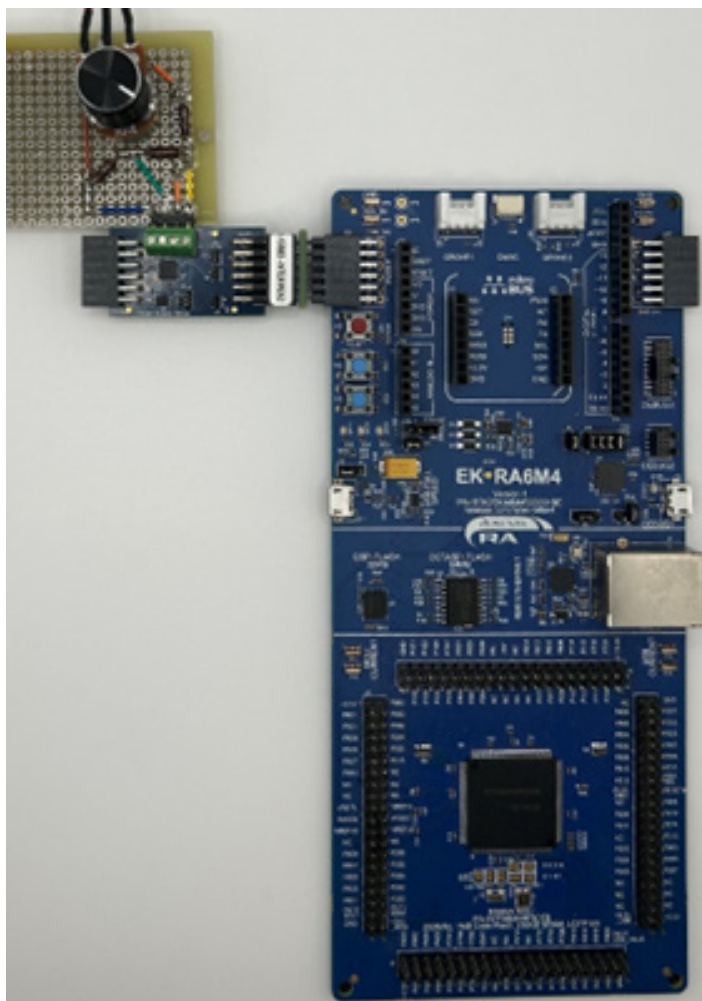

Figure 4. US082-SSC3224EVZ with EK-RA6M4 MCU Kit
5. Plug the US082-SSC3224EVZ board into the US082-INTERPEVZ on the PMOD1 connector. Ensure all pins are properly aligned (see Figure 4).